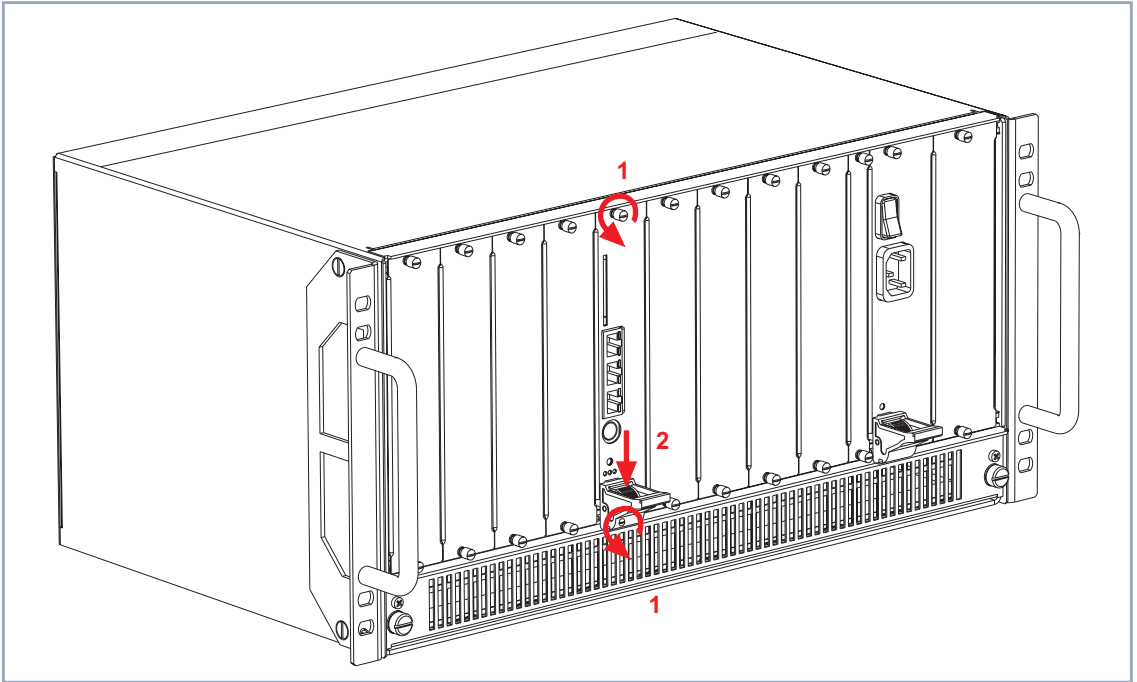

Figure 4-6: Removing an expansion card, step 1
- Loosen the screws of the front panel, see figure 4-6, page 39, arrows no. 1.
- Press the switch on the injector/ejector handle down in order to release the connection linked to the cross section of the case front, see figure 4-6, page 39, arrow no. 2.